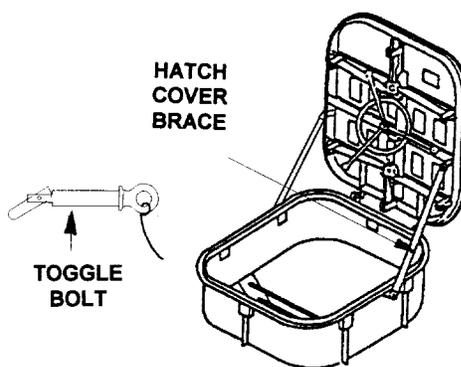

Figure 2-27. Hatch Cover Brace and Toggle Bolt
3. Ensure the toggle bolt is the right size to attach to the clips and that it has not been replaced by nuts and bolts. See figure 2-27.